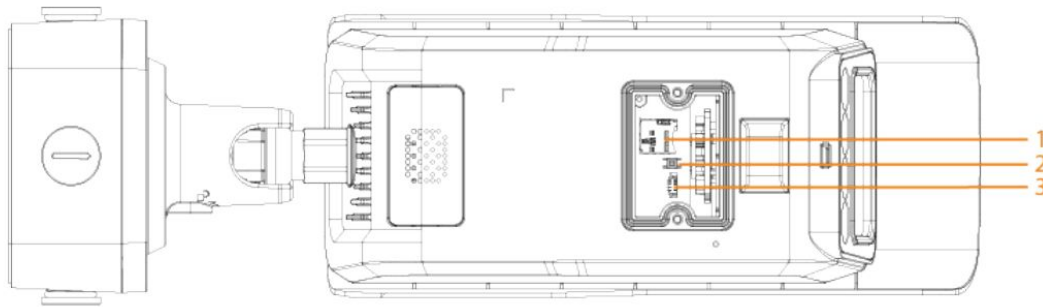

Figure 2-3
**Step 2** Slightly press the RESET button for 15-30 seconds to complete the reset function. (#2 on Figure 2-3). The camera will reboot when the reset process is complete.
**Step 3 (If installing SD Card)** Adjust the Micro SD Card to the proper direction shown in as #1 on Figure 2-3. Close the access panel, tighten down the locking screw and reinstall camera.